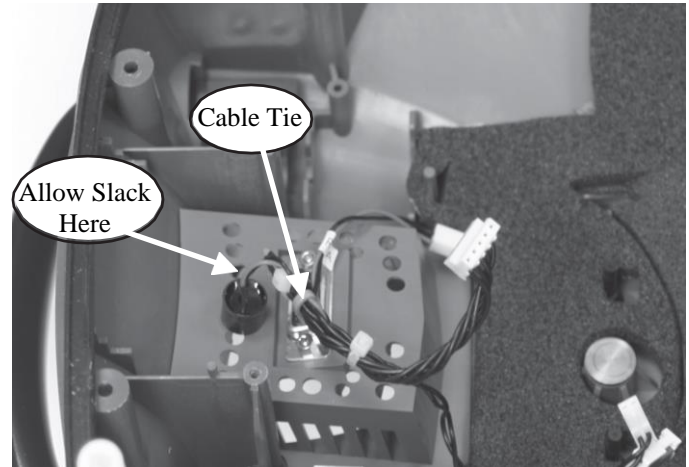

Figure 45: Buzzer Installation.
6. Install the Control Board Assembly. Secure the wire harness with Cable as shown on Figure 45. Insure that there is slack on the wire harness before tightening the Cable Tie. Plug in the buzzer.